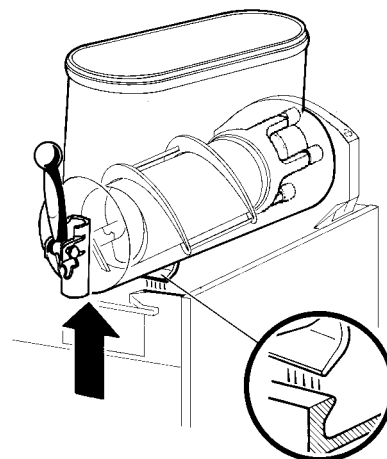
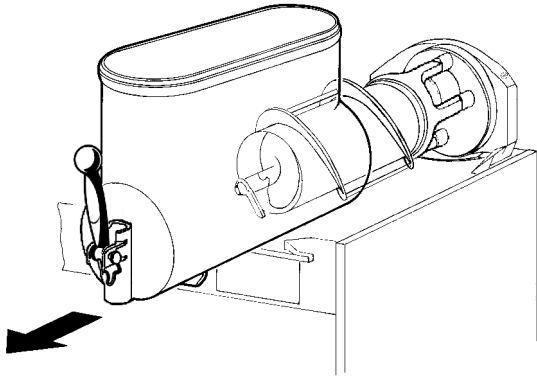

figure 7
figure 8
- 2 Remove the bowl by lifting its faucet side up and off the fastening hooks (see figure 7) and slide it out (see figure 8).